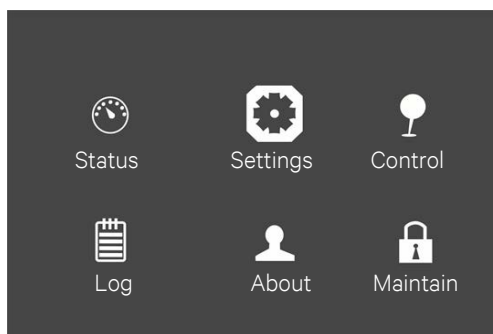

Figure 5-18 Main menu
1. After switching the UPS on, access the main menu screen and , press the  or  key to move the cursor to select 'Settings'. See Figure 5-18.